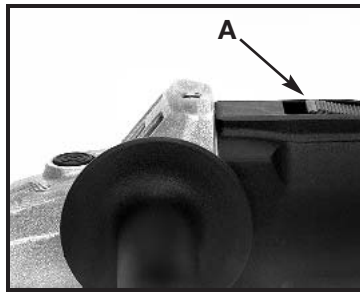

Fig. 1
3. Slide the switch button (A) Fig. 1 forward to turn the tool "ON". When released, the switch button will return to the "OFF" position.
4. To lock the switch in the "ON" position, move the switch to the "ON" position and depress the front end of the switch button (A) Fig. 1. To release the switch lock, depress the rear end of the switch button.